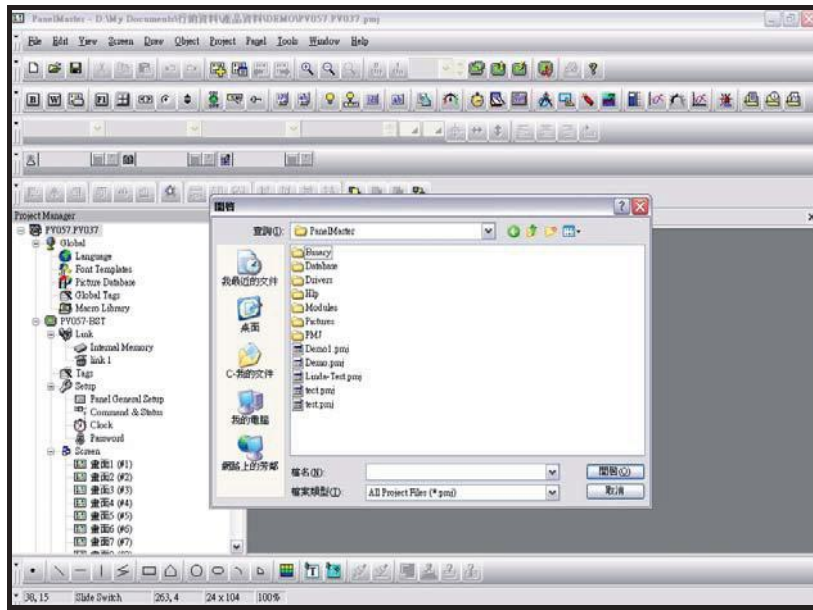

Figure 2-92 Step 1 New a project_create a project name and directory
Step1 : Click 【File---New】 To open a new project , see figure 2-92 shown as below.